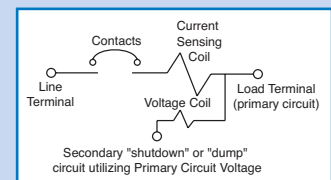

Fig. 4 - SHUNT TRIP DUAL COIL
Under short circuit conditions, the resultant increase in electro-magnetic energy is so rapid, that the armature is attracted without core movement, allowing the breaker to trip without an induced delay. This is called "instantaneous trip". It is a safety feature which results in a very fast trip response when most needed. (Fig. 4)
■ Figure 4 - SHORT CIRCUIT CONDITION NO INDUCED DELAY
When a heavy viscosity fluid is used, the result will be a long delay, such as figure 4. These curves are commonly used in motor applications to minimize the potential for nuisance tripping during lengthy motor start-ups.
■ Figure 4 - LONG DELAY CURVE
The Dual Coil options is the "Shunt Trip Dual Coil", a three terminal device with one side of the voltage coil internally connected to the primary circuit. (Fig. 4)